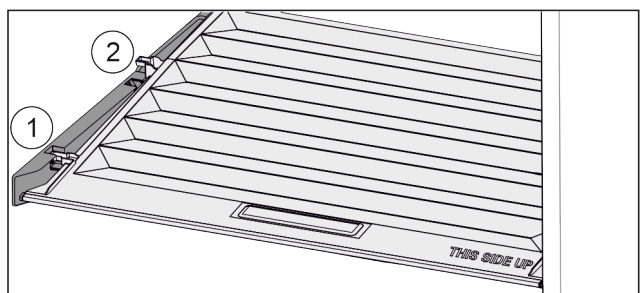

Fig. 80
- ▶ Pull the lid up at the front to the opening in the retaining parts Fig. 80 (1).
- ▶ Lift from the back and pull it up and out Fig. 80 (2).